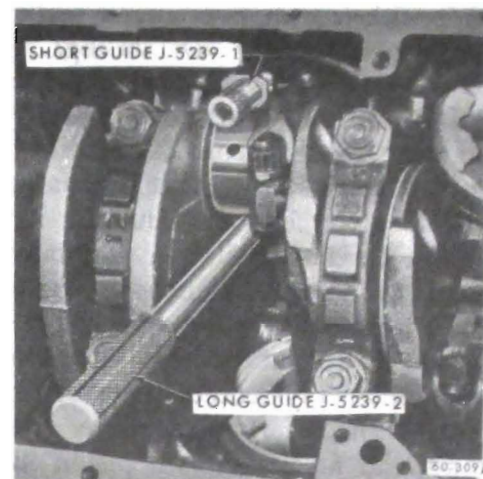

Figure 60-231 Connecting Rod Bolt Guides Installed
4. With No. 1 crankpin straight down, remove the cap with bearing shell from No. 1 connecting rod, install the *short* Connecting Rod Bolt Guide J-5239-1 on the connecting rod bolt, above crankpin. Install the *long* Connecting Rod Bolt Guide J-5239-2 on remaining stud. Turn guides down fully to hold the upper bearing shell in place while removing piston and rod assembly. See Figure 60-231.